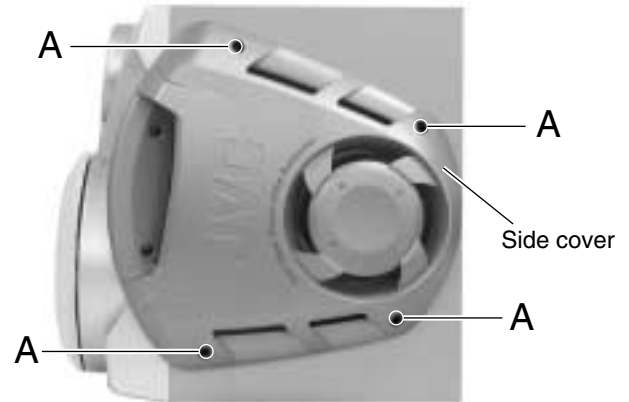

Fig.1
■ Removing the side cover (See Fig.1)